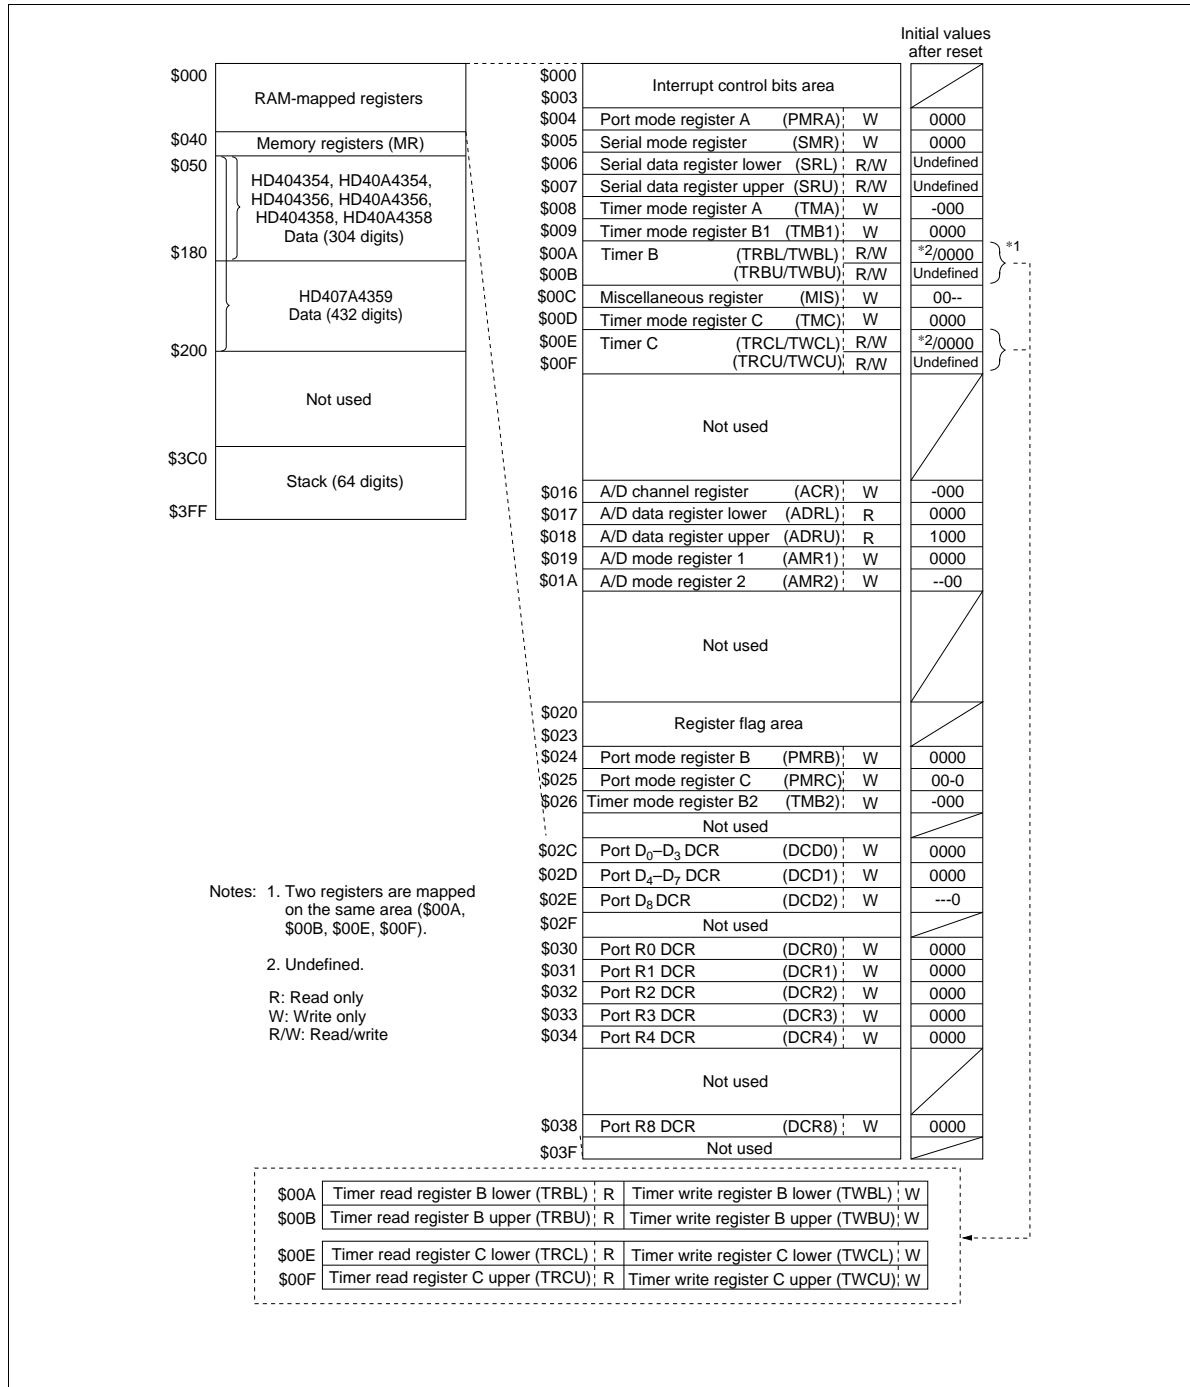

Figure 2 RAM Memory Map
The HD404354, HD40A4354, HD404356, HD40A4356, HD404358 and HD40A4358 MCUs contain 384-digit \times 4-bit RAM areas. The HD407A4359 MCU contains 512-digit \times 4-bit RAM areas. Both of these RAM areas consist of a memory register area, a data area, and a stack area. In addition, an interrupt control bits area, special function register area, and register flag area are mapped onto the same RAM memory space labeled as a RAM-mapped register area. The RAM memory map is shown in figure 2 and described below.
This area is used as mode registers and data registers for external interrupts, serial interface, timer/counters, A/D converter, and as data control registers for I/O ports. The structure is shown in figures 2 and 5. These registers can be classified into three types: write-only (W), read-only (R), and read/write (R/W). RAM bit manipulation instructions cannot be used for these registers.